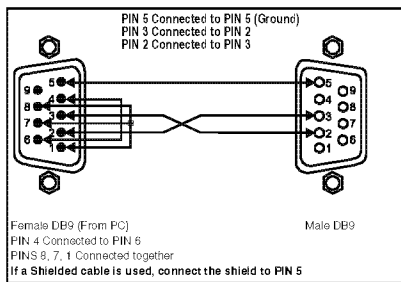

Figure 3: Connecting a PC without using a Null-modem Adapter
- Connect the RS-232 DB9 port on your PC to the RS-232 DB9 rear panel port on the **VP-437**, as Figure 3 illustrates